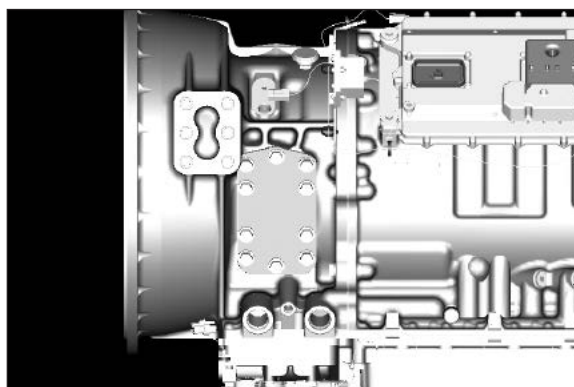

Figure 30
1. Remove the PTO aperture plate with a 16 mm socket (**Fig. 30**).